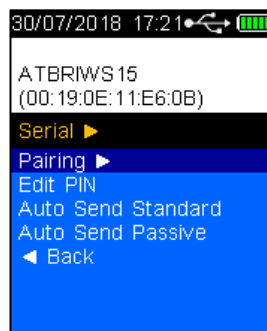

Figure 95 - Pairing Selected
- Select 'Pairing' on HH4 to search for Bluetooth devices (Refer to Figure 95).